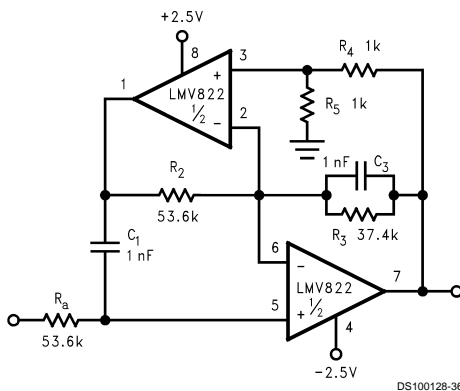
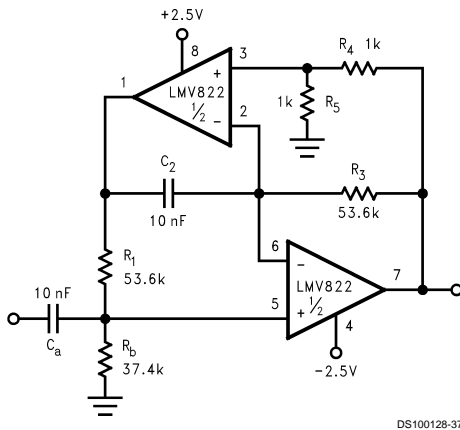
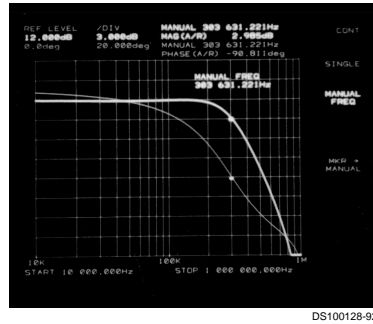

FIGURE 10. Dual Amplifier, 3 kHz Low-Pass Active Filter with a Butterworth Response and a Pass Band Gain of Times Two
FIGURE 11. Dual Amplifier, 300 Hz High-Pass Active Filter with a Butterworth Response and a Pass Band Gain of Times Two
FIGURE 12. 300 kHz, Low-Pass Filter, Butterworth Response as Measured by the HP3577A Network Analyzer
The LMV822/24 bring economy and performance to DAAFs. The low-pass and the high-pass filters of Figure 10 and Figure 11 (respectively), offer one key feature: excellent sensitivity performance. Good sensitivity is when deviations in component values cause relatively small deviations in a filter's parameter such as cutoff frequency (f_c). Single amplifier active filters like the Sallen-Key provide relatively poor sensitivity performance that sometimes cause problems for high production runs; their parameters are much more likely to deviate out of specification than a DAAF would. The DAAFs of Figure 10 and Figure 11 are well suited for high volume production.
Single Amplifier versions require a large open-loop to closed-loop gain ratio - approximately 50 to 1, at the F_c of the filter response. Figure 12 shows an impressive photograph of a network analyzer measurement (hp3577A). The measurement was taken from a 300kHz version of Figure 10. At 300 kHz, the open-loop to closed-loop gain ratio @ F_c is about 5 to 1. This is 10 times lower than the 50 to 1 "rule of thumb" for Single Amplifier Active Filters.
In addition to performance, DAAFs are relatively easy to design and implement. The design equations for the low-pass and high-pass DAAFs are shown below. The first two equations calculate the F_c and the circuit Quality Factor (Q) for the LPF (Figure 10). The second two equations calculate the F_c and Q for the HPF (Figure 11).
To simplify the design process, certain components are set equal to each other. Refer to Figure 10 and Figure 11. These equal component values help to simplify the design equations as follows:
To illustrate the design process/implementation, a 3 kHz, Butterworth response, low-pass filter DAAF (Figure 10) is designed as follows: